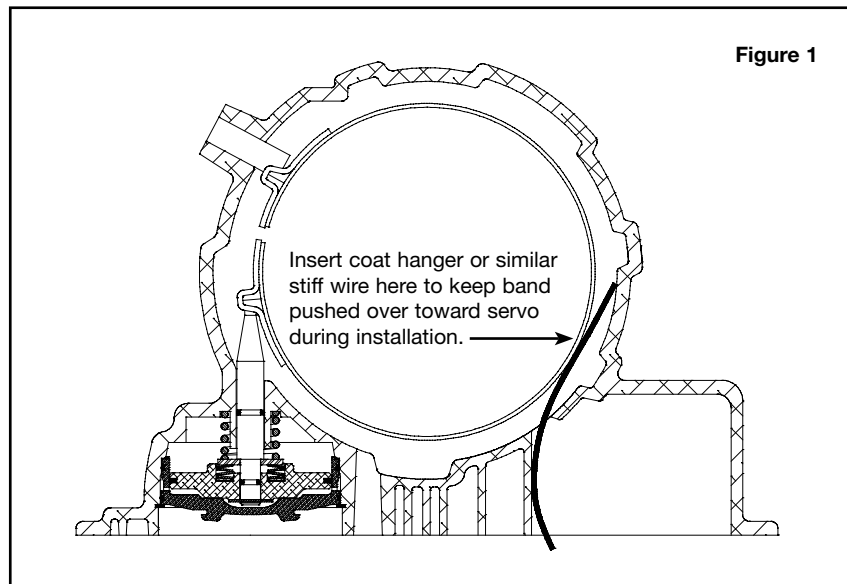

Figure 1
- When the servo is removed, the band end will move out of position. The servo cannot be reinstalled until the band is repositioned. **Figure 1** illustrates how to use a piece of coat hanger or similar stiff wire to keep the band pushed over toward the servo.
NOTE: Ensure the pin properly engages the band by positioning the band (Figure 1).